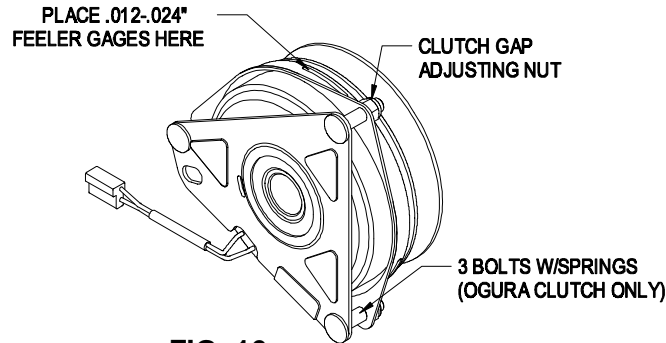

FIG. 16
Determine the brand of clutch installed on your unit. Ogura clutches can be identified by 3 bolts with springs. See Fig. 16. Warner clutches do not have these bolts.
- c) Place .012-.024 inch feeler gages through each of the three clutch gap holes. If gap exceeds this range, tighten the three adjusting nuts until the proper gap is obtained (See Fig.16). The three clutch gap holes are located at the "nut side" of the adjusting bolts. The adjusting bolts can be identified by the springs surrounding each bolt.